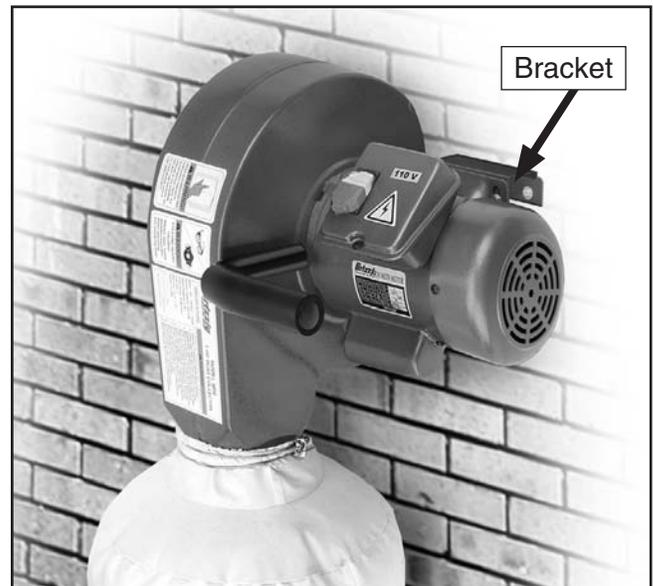

Figure 7. Mounted dust collector.
3. After the mounting bracket is installed on the wall, have another person help you hang the dust collector on the bracket, as shown in **Figure 7**.